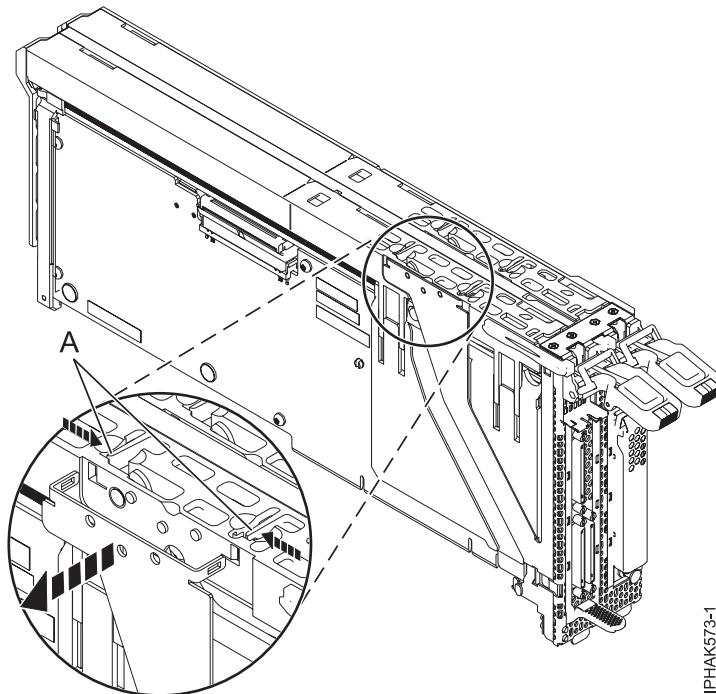

Figure 66. Detaching the face plate
6. Detach the outer arms of the face plate assembly by releasing the plastic locking tabs **(A)**. See Figure 66.